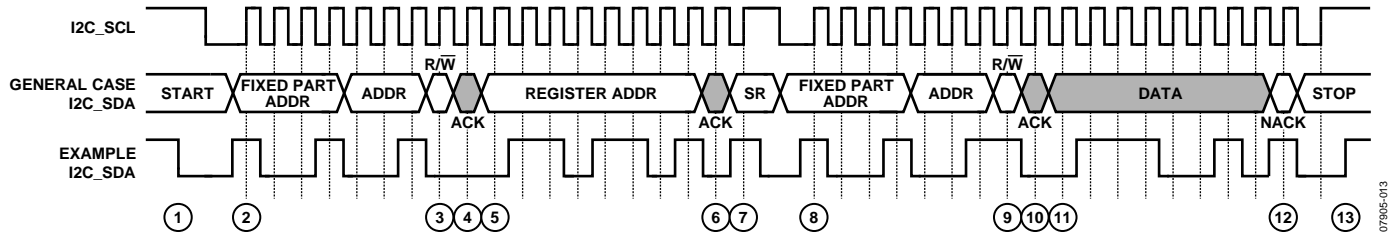

Figure 29. I²C Read Procedure
To read data from the ADV3002 register set, an I²C master (such as a microcontroller) needs to send the appropriate control signals to the ADV3002 slave device. The signals are controlled by the I²C master unless otherwise specified. For a diagram of the procedure, see Figure 29. The steps for a read procedure are as follows:
3. Send the write indicator bit (0).
9. Send the read indicator bit (1).
- a. Send a no acknowledge (NACK) followed by a stop condition (while holding the I2C_SCL line high, pull the SDA line high) and release control of the bus to end the transaction (shown in Figure 29).